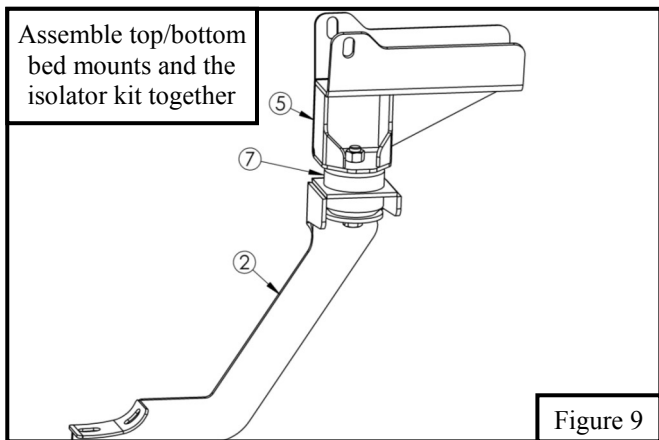

Figure 9
- Locate (1) step bar assembly and loosely secure it to the previously installed brackets. Loosely install onto brackets using (6) M10 button head bolts, (6) M10 flat washers and (6) M10 internal toothed lock washers.
- Locate (1) bed mount bottom bracket, (1) bed mount top bracket and (1) isolator kit and assemble together. See **Figure 9**.